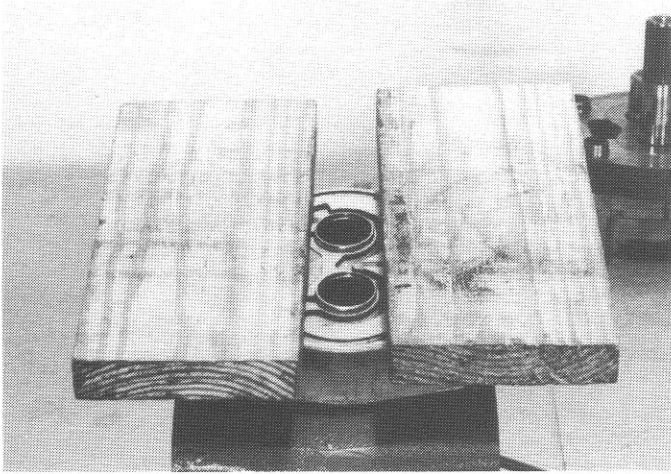

Fig. 5
10. If an arbor press is available, use it to press the new seal into flange bore. If the press is not available, place the flange in a machinist vise with the seal bore facing the movable jaw. Arrange blocks of wood on each side of the protruding ends of the bearings at the side next to fixed jaw to prevent pressing on the bearings while the seal is being pressed in. (Fig. 5)